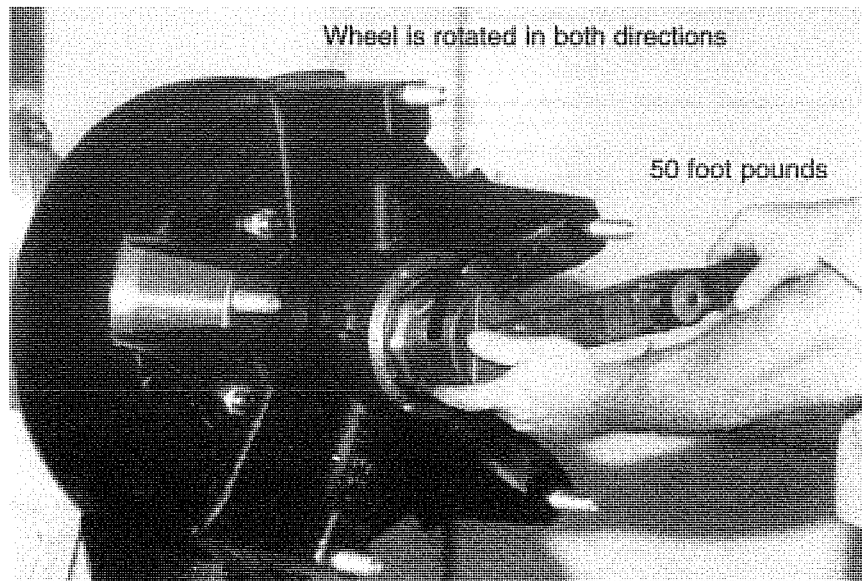

Figure III-4: Tightening of inner spindle nut.
2. Tighten the inner spindle nut (adjusting nut) to two hundred (200) foot-pounds of torque while rotating the wheel in BOTH directions, as illustrated in Figure III-4.
3. Back off the inner spindle nut (adjusting nut) one full turn and rotate the wheel. Retighten the inner spindle nut to fifty (50) foot-pounds while rotating the wheel in both directions.